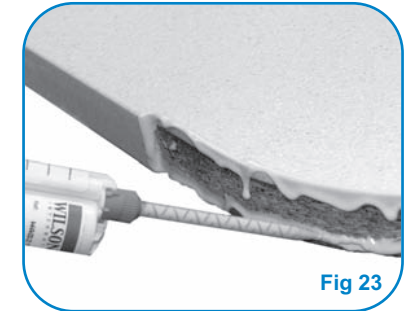
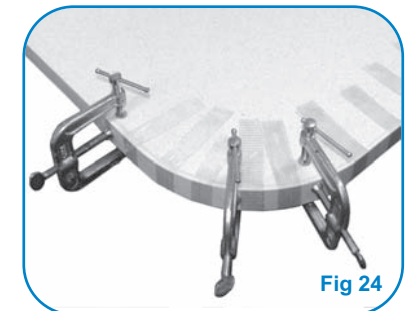

Fig 23
Fig 24
6. Apply a bead of colour matched adhesive all along the top, bottom and front cut edges (fig 23). Position the curved edging so that 2mm overhang top and bottom can be seen. Using 3 way clamps or filament reinforced tape place every 50 to 70mm. Ensure that an adhesive squeeze all along the attached edging can be seen from above. (fig 24)
6. Apply edging as per fig 24 and 25.